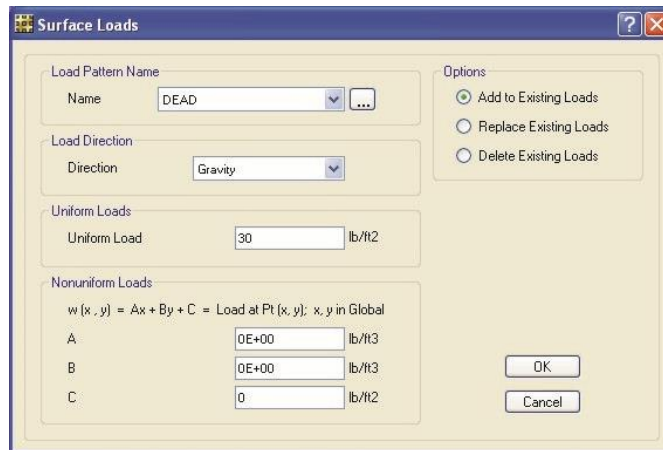

Figure 35 Surface Loads form
- B. Click the **Assign menu > Load Data > Surface Loads** command to access the Surface Loads form shown in Figure 35.